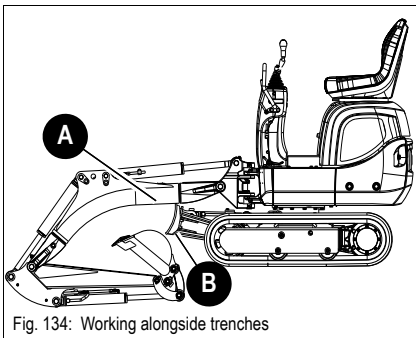

Fig. 134: Working alongside trenches
- ☞ Ensure that stabiliser blade **B** never touches boom **A** Fig. 134.